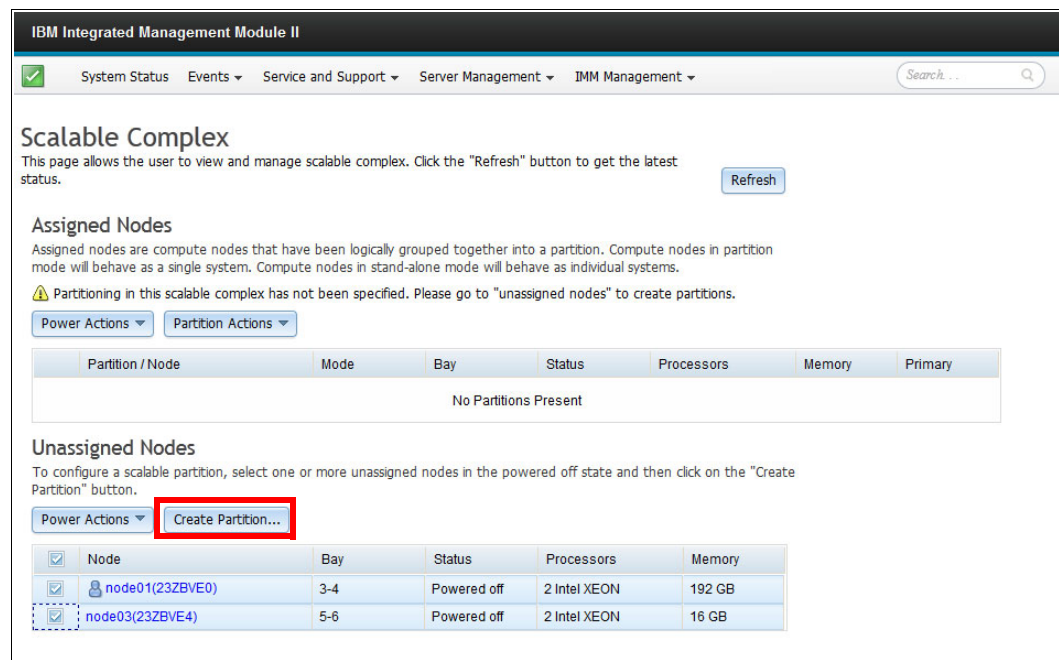

Figure 5-39 Selecting Unassigned Nodes to form X6 partition
- Select the required nodes for the partition from the Unassigned Nodes table as displayed in Figure 5-39. When all nodes have been selected for the partition, click the **Create Partition** button.